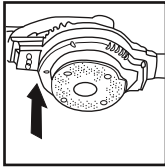

Fig. 4
5. Set back the foam pad in the blower aligning the holes with the screw's flanges (Fig. 4)